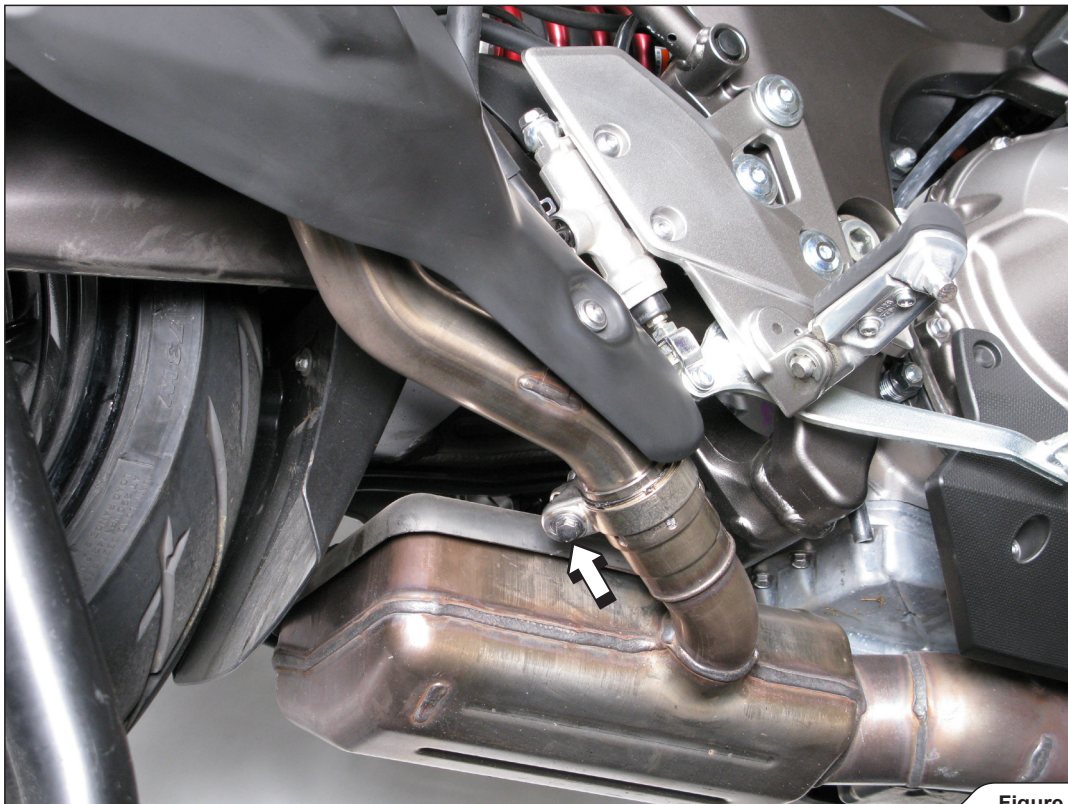

Figure 1
2. Untighten the marked link pipe clamp, unscrew the marked muffler bracket bolt and remove the original muffler of the motorcycle (**Figure 1, 2**).